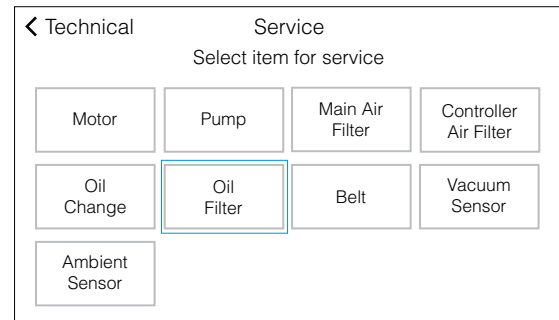

FIGURE 66. PRESS OIL FILTER
8. On the Service screen, press **OIL FILTER** (FIGURE 66).